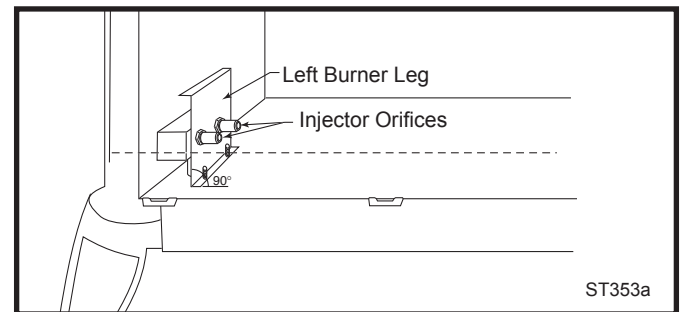

Fig. 58 Remove and replace injector orifices.
14. Remove injector orifices from left burner leg using 1/2" wrench. (Fig. 58)
NOTE: It is very critical to keep the left burner leg, which holds the injectors, at a 90° angle to the base. (Fig. 58) This keeps the orifices aligned with the tubes inside the burner. Failure to do so could affect the flame appearance and performance of the unit.